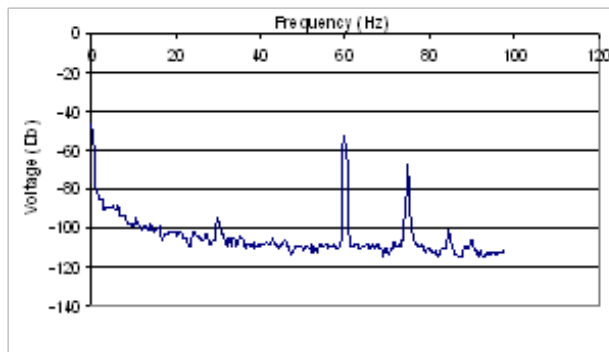

Figure 11: A plot of data
6. Your data should look like **Figure 11**. Does this follow a $1/f^\alpha$ spectrum? Note that the vertical axis is a log scale. Why does the spectrum seem to diverge at $f = 0$ Hz?